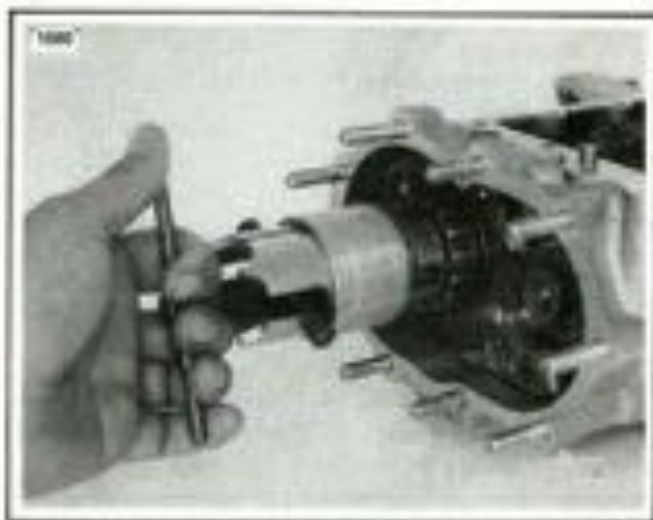

Figure 7-34. Removing Starter Clutch
4. See Figure 7-34. Remove the starter clutch using Harley-Davidson's STARTER CLUTCH PULLER, Part No. HD-95650-42.